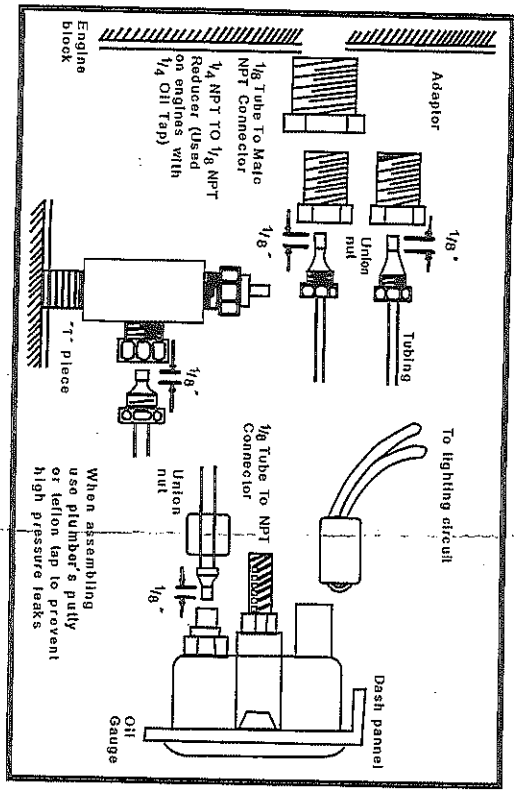

Figure 1
Remove oil light sender from the side of the engine block and disconnect the wire from the indicating light on the dash. Connect the coiled end of the tubing to the engine block (where the oil light sender was removed) and the other end to the pressure gauge. Where required, use adaptor bushing on all cars with larger oil gallery tap. (See fig. 1).
1. See figure 1.